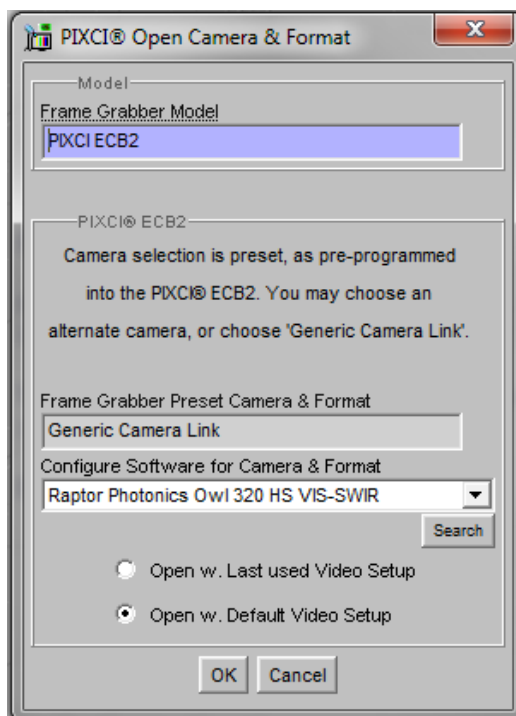

Figure 2: Camera Selection
4. Using the dropdown menu scroll down and select Raptor Photonics OWL-CL High Speed from the list (Figure 2). Selecting OK when done.